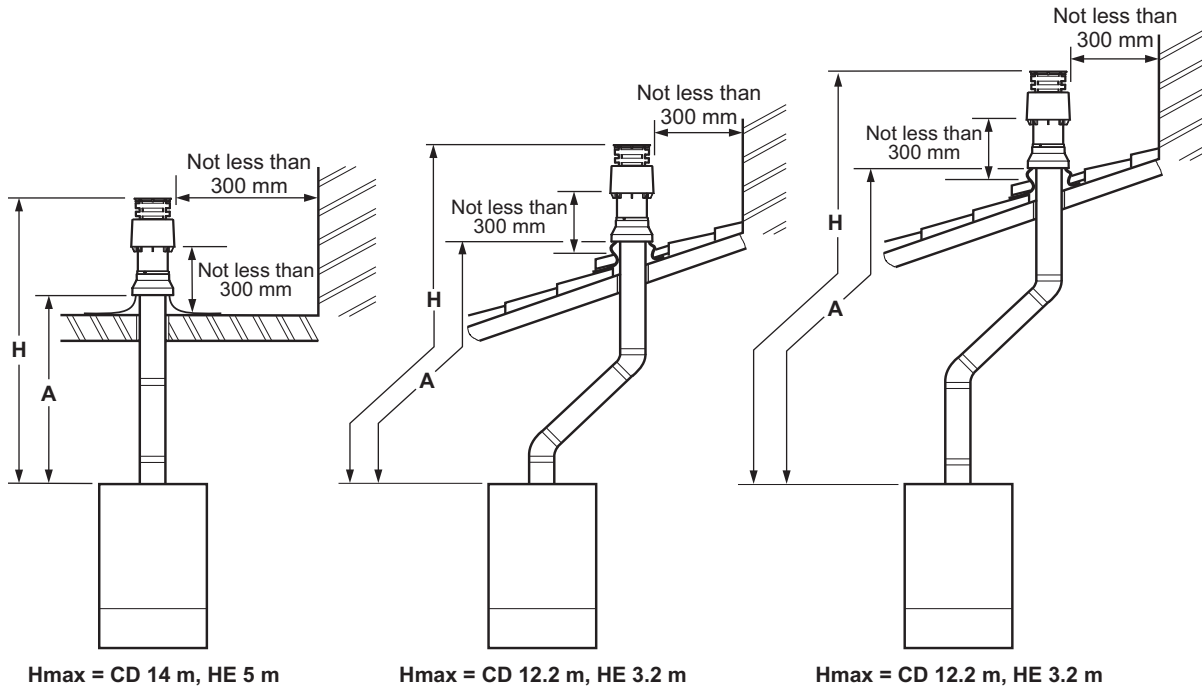

Fig. 3
- Refer to the vertical flue options (Fig. 3) and ensure the flue length **does not exceed** the equivalent of 15 m for CD boilers and 6 m for HE boilers (including the terminal assembly).
- To determine the actual length of flue required (L), measure the distance from the top of the side panel to the weathering slate position and subtract 720 mm for the terminal assembly, i.e. $L = A - 720$ mm (see Fig. 3).
Note: Ensure that the minimum distances are maintained (see Fig. 3). Do not secure the terminal into position at this stage.